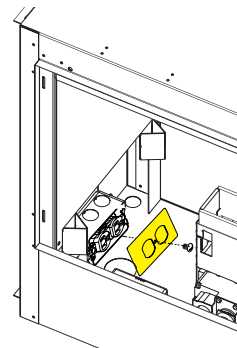

Figure 42
7. Install the Junction box cover. **See Figure 42.**